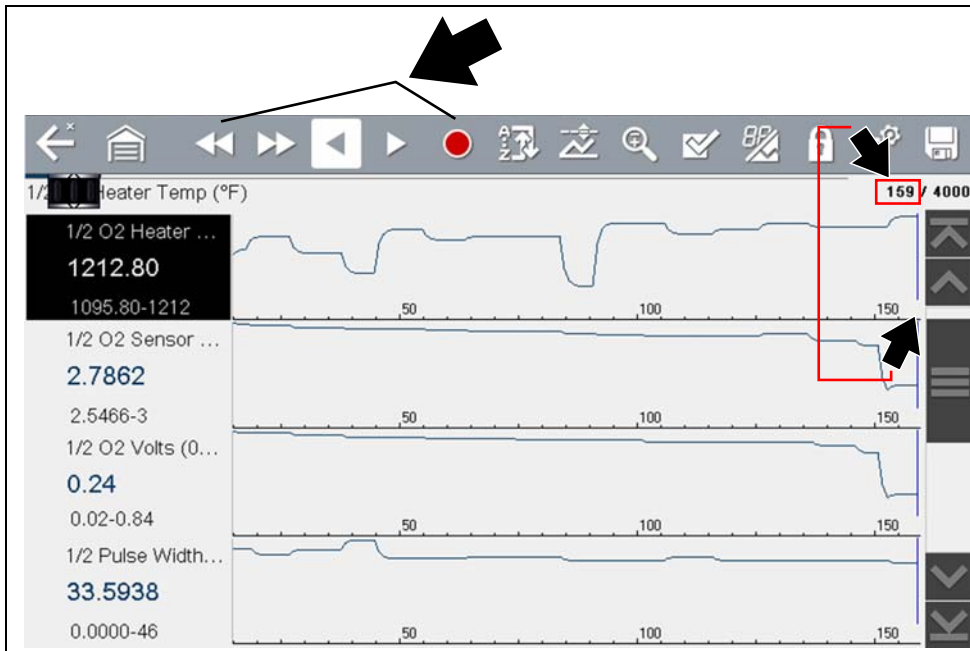

Figure 5-12
- Review control icons are displayed in the toolbar (Figure 5-12). Use the control icons to accurately move through the data.
- The blue (vertical cursor) (Figure 5-12) indicates your position in the data and is denoted by the current position value in the counter display. This cursor displays in all PIDs.